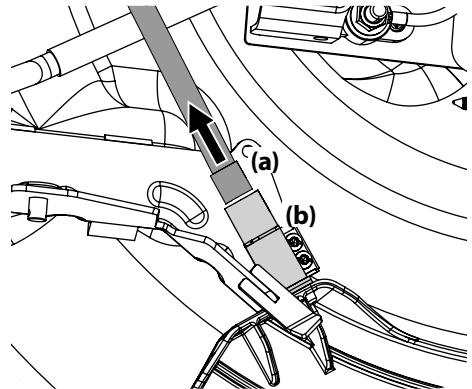

Figure 4-9
6. Unplug the wire connector (a) from the safety switch (b) at the rear of the chute opening. See Figure 4-9.
3. Plug the wire connector (a) into the safety switch (b) at the rear of the chute opening. See Figure 4-9.
Note: Be sure to securely reconnect the wire connector to the safety switch in Figure 4-9, you rider will not start or operate without the safety switch properly connected.